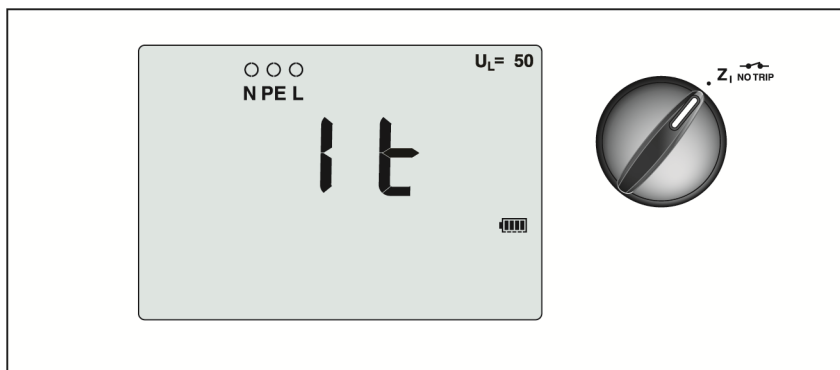

Figure 6. Loop Impedance Test in IT System
- L-PE loop measurement not available in no trip loop during IT mode. See Figure 6.